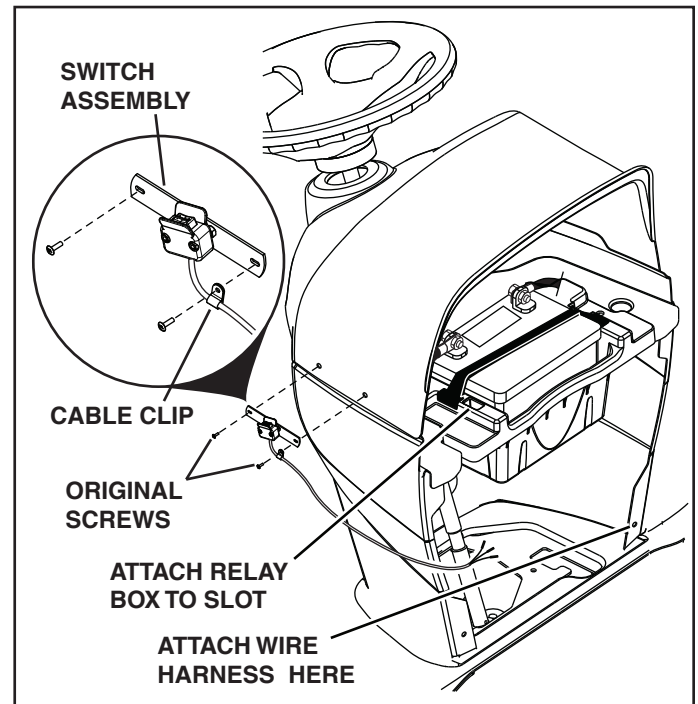

FIGURE 5
STEP 5: (SEE FIGURE 5)
STEP 6: (SEE FIGURE 5)